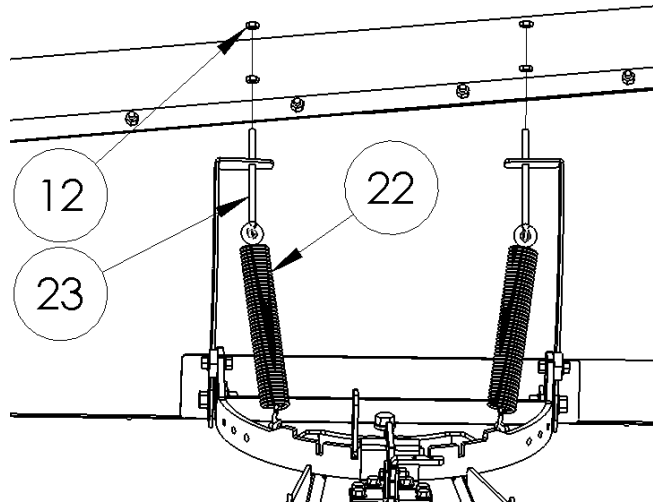

Figure 14
- 12) Install your Blade Return Springs (#22) using the Eye Bolts (#23) and 3/8" Regular Nuts (#12) included in your kit. The spring eyelet inserts into the Swivel Plate on one end and into the 6" Eye Bolt on the other end (**Figure 14**). Tighten the 3/8" Regular Nuts to add tension to the springs. If your blade tends to tip forward while plowing you can increase the tension to hold the blade upright.